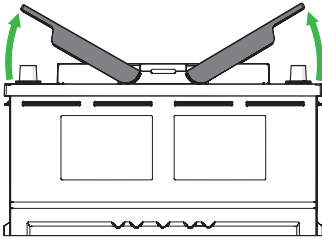

Figure 6.
- a) Lift the handles 30°. (Figure 6)